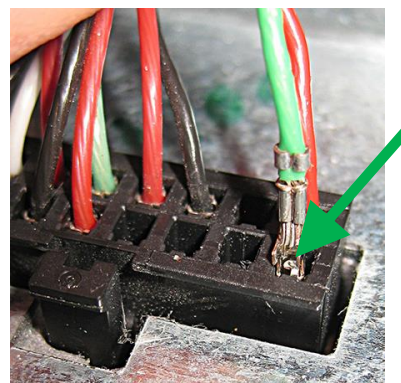

Figure 86
89. Insert the green wire into the far right front position (pin 16) in front of the red wire inserted in step 88. (see Figure 86).